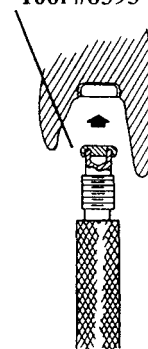
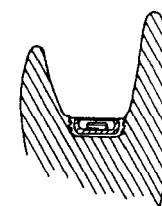

Fig. 10
Fig. 11
9. The Locator Male Seating Tool (contained in Locator Core Tool, Zest order #8393) is used to firmly push a Locator Replacement Male into the metal Denture Cap. (Fig. 10) The replacement male must seat securely into place, level with the rim of the cap. (Fig. 11)